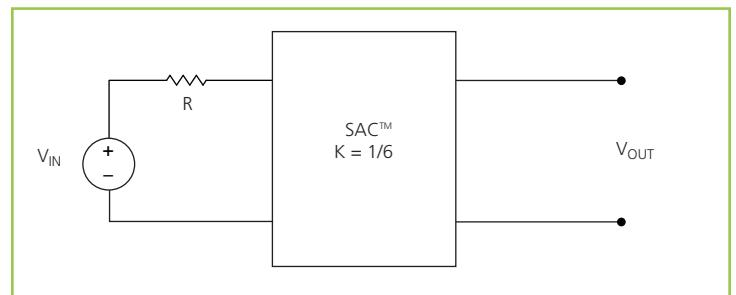

Figure 15 – $K = 1/6$ Sine Amplitude Converter™ with series input resistor
The use of DC voltage transformation provides additional interesting attributes. Assuming that $R_{OUT} = 0 \Omega$ and $I_Q = 0 A$, Eq. (3) now becomes Eq. (1) and is essentially load independent, resistor R is now placed in series with V_{IN} as shown in Figure 15.
Assuming that $R = 1 \Omega$, the effective R as seen from the secondary side is $27.8 \text{ m}\Omega$, with $K = 1/6$ as shown in Figure 15.